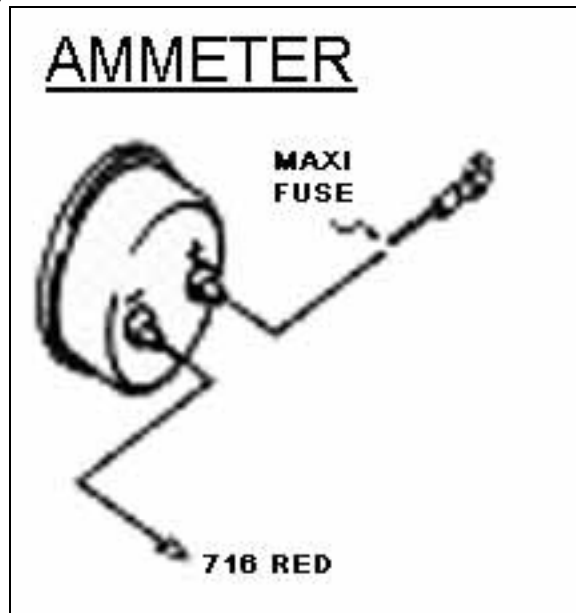

Figure 9-3 Ammeter & Maxi Fuse
9.3 Connecting an Ammeter and the Maxi Fuse. See Figure 9-3.